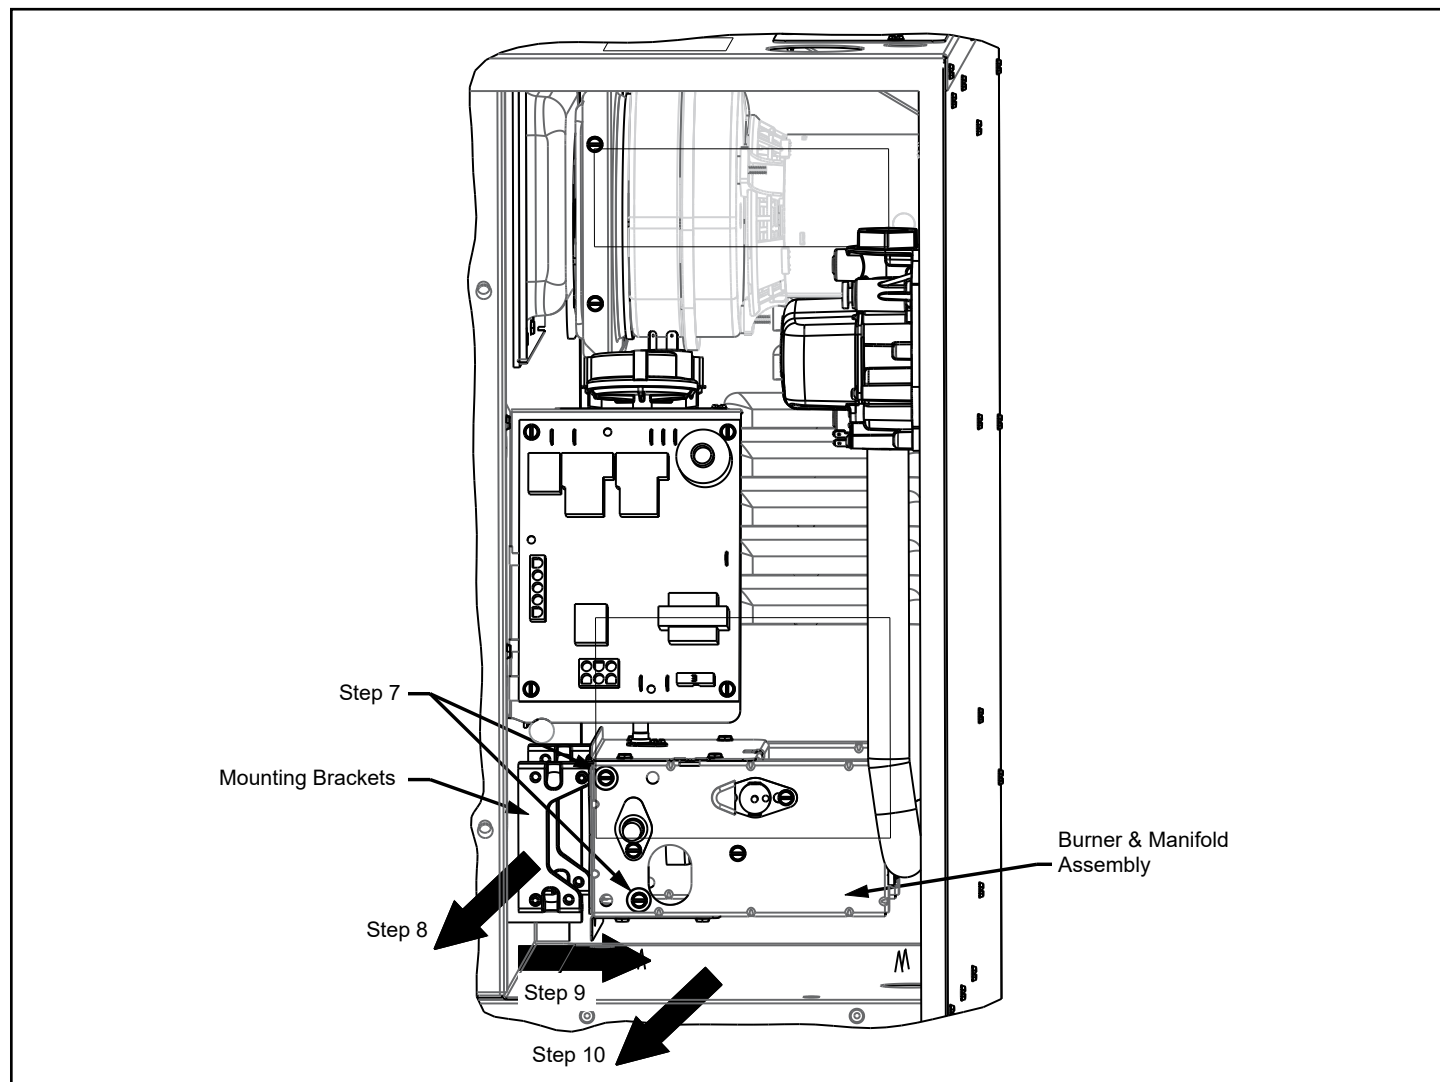

Figure 9. Burner & Manifold Assembly Removal
7. Refer to Figure 9. Remove the two screws on the burner assembly that secure it to the mounting brackets. The mounting brackets contain pins to locate the assembly and hold it in place after the screws are removed. The mounting brackets are hidden until the burner assembly is removed.